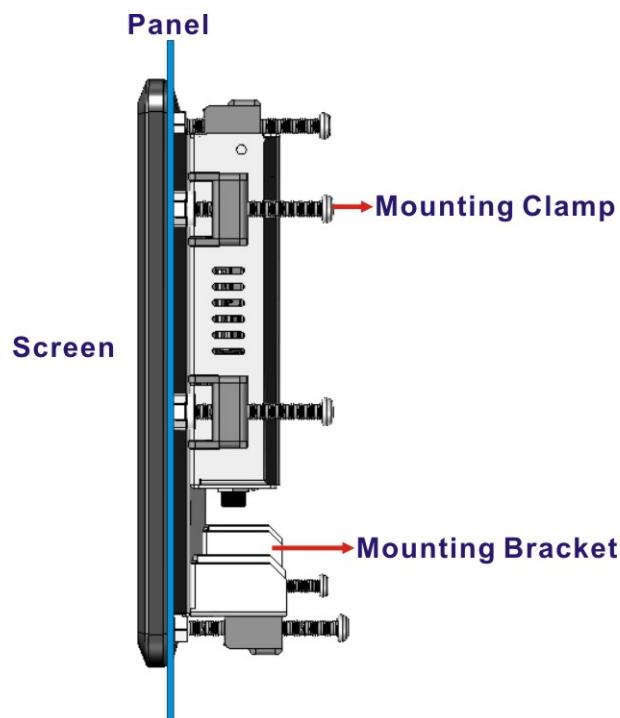

Figure 3-25: Tighten the Mounting Clamp Screws
Step 5: Insert the mounting clamps into the mounting brackets and pre-formed holes along the edges of the PPC-F08B/F10B-BT, behind the aluminum frame (**Figure 3-25**). There are a total of eight mounting clamps required.
Step 6: Tighten the screws that pass through the mounting clamps until the plastic caps at the front of all the screws are firmly secured to the panel (**Figure 3-25**).